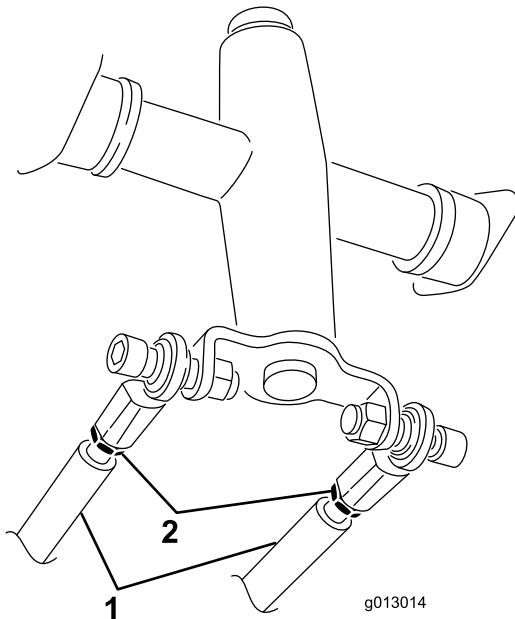

Figure 57
- Loosen the jam nuts on the traction rods, under the control panel (Figure 57).